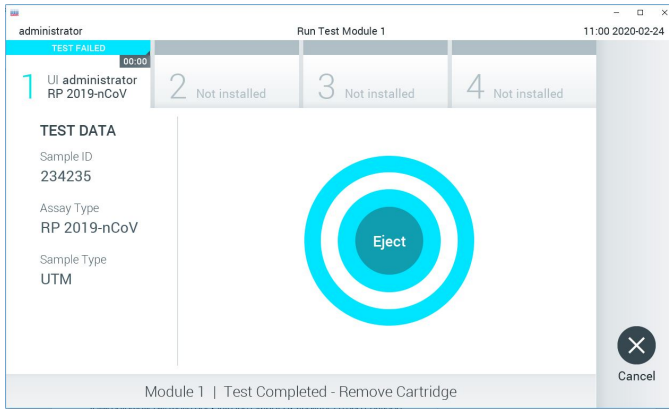

Figure 29.Eject screen display.
22. After the test run is completed, the **Eject** screen will appear (Figure 29, next page) and the Module status bar will display the test result as one of the following options: